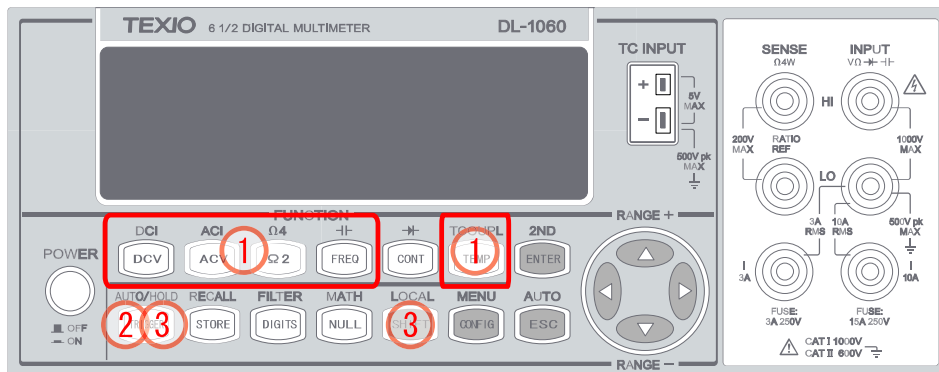

Figure 3-19
1. Press one of the measurement function keys to select a measurement function as shown in **Figure 3-19**.